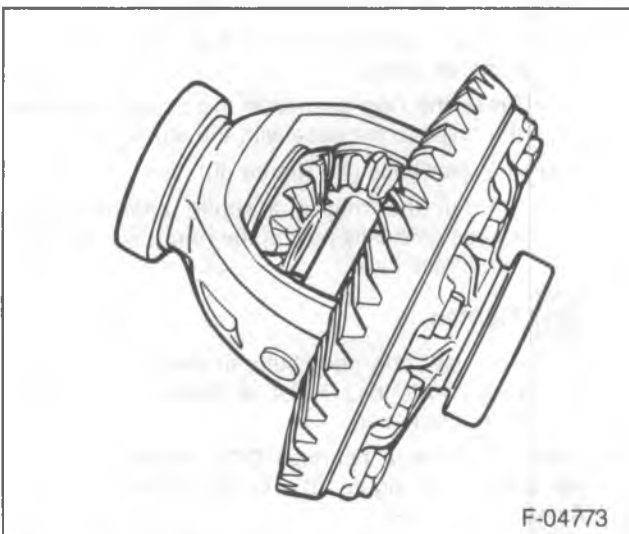

Figure 61—Differential with the Master Bearings
- 9. Master differential bearings D-117 (Miller Tools) to the differential (figure 61). D-136 (Miller) for H.D. Axles.